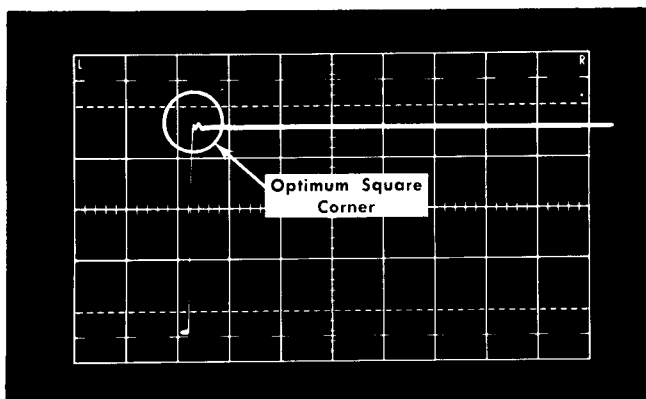

Fig. 6-11. Typical CRT display showing correct trigger-amplifier high-frequency compensation. Sweep rate: 0.5 μs/cm.
f. Using the Type 1A4 Channel 2 POSITION and oscilloscope Horizontal Position controls, position the display to a location similar to the one shown in Fig. 6-11.
g. CHECK—CRT display for optimum top front corner on the rising portion of the waveform (see Fig. 6-11). Minor aberrations can be expected but they should not be of the ringing type.